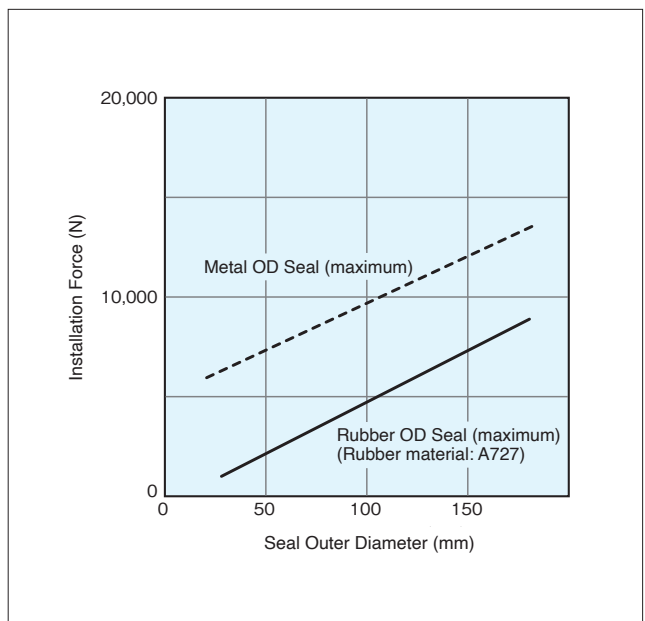

Fig. 7-10 Seal Installation Force Requirements (Base on 100mm/min)
- ⑥ Fig. 7-10 shows the press forces required to properly install an oil seal.